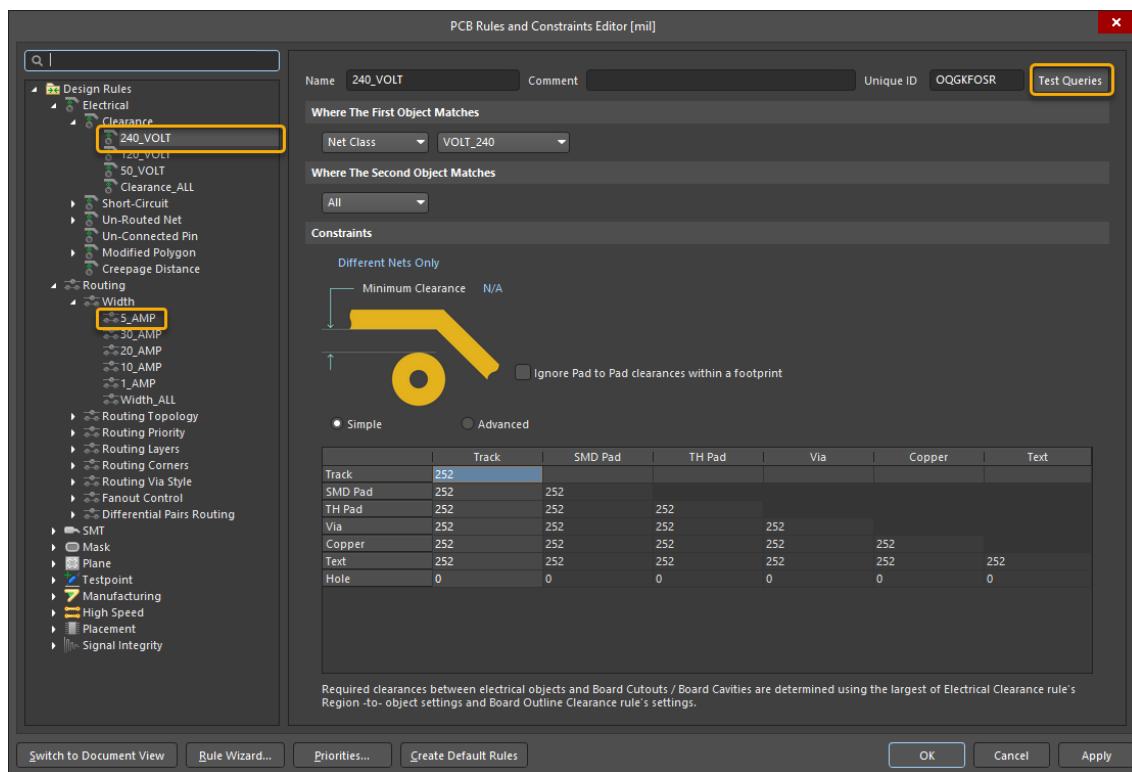

Figure 2. PCB Rules and Constraints Editor
13. Go to **Design » Rules** to open the *PCB Rules and Constraints Editor* as shown in Figure 2.